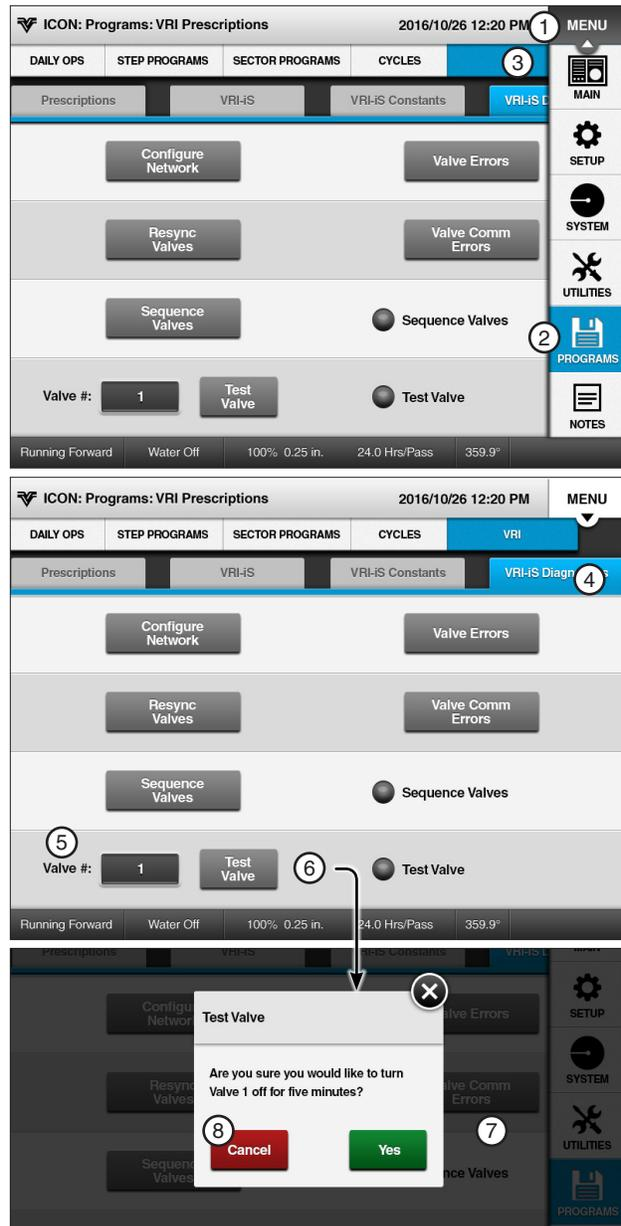

Figure 180-1 1. Menu 5. Valve#
1. Push **Menu**, **Programs**, **VRI** and **VRI-iS Diagnostics** to display the VRI-iS diagnostics screen. Refer to Figure 180-1.